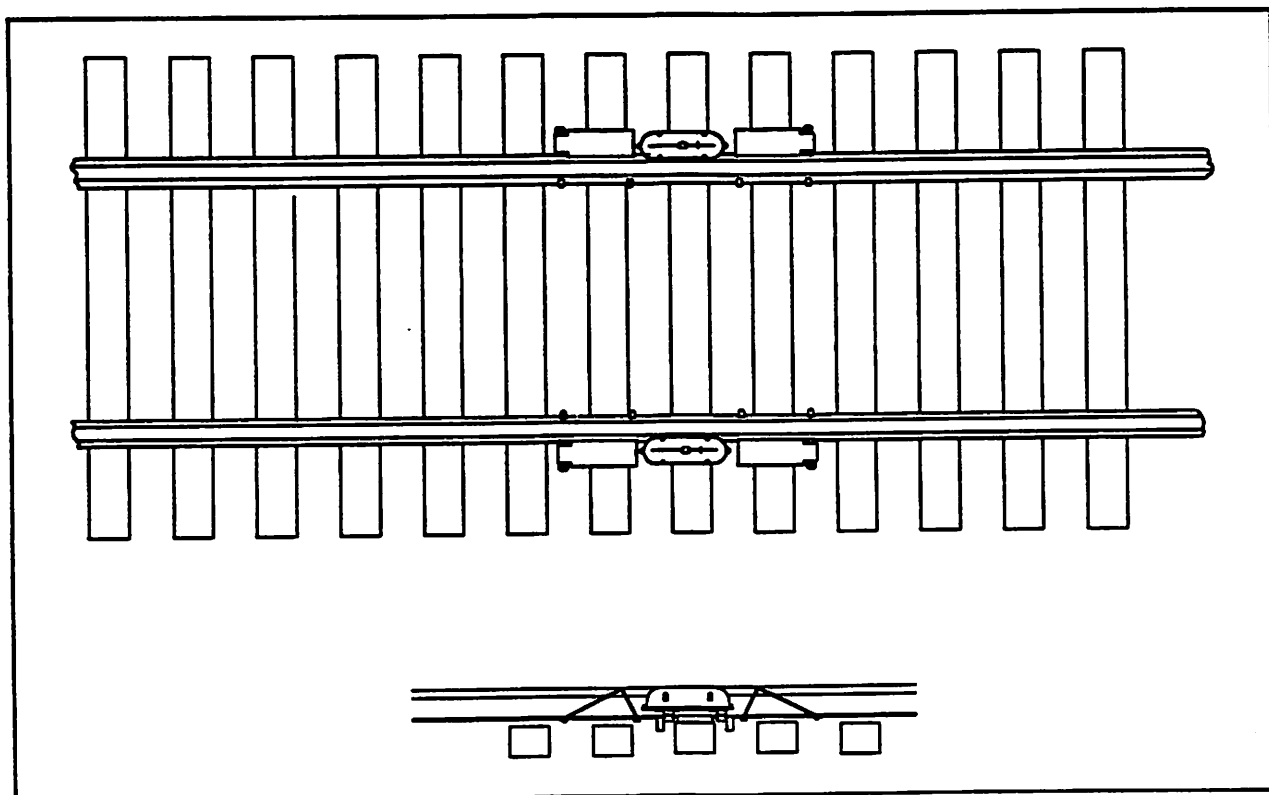

Figure 3 Placement of Rail Mount Scanner Guards
7.1 Scanner guards are installed on either side of a rail mount scanner to prevent damage from dragging equipment. A typical installation is shown in figure 3.